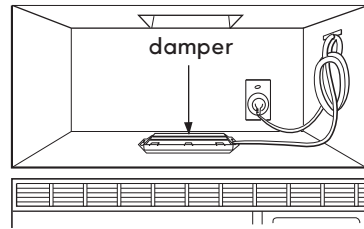

Figure 32
5. Roof vented installation: See Figure 32. Install ductwork through the vent opening in the upper cabinet. Complete the venting system through the roof according to the method needed. See "PREPARE THE VENTING SYSTEM," STEP 2 on the page 8. Use caulking to seal exterior roof opening around the exhaust cap. See Figure 6 on page 8.